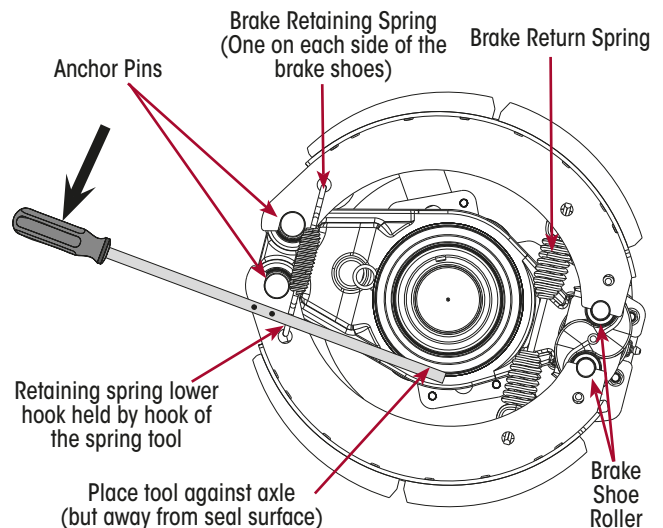

Figure 53: Brake Retaining Spring Installation
7. While manually supporting the lower brake shoe, use Brake Spring Tool to hook inner brake retaining spring onto the anchor end of the brake shoes. Take care not to damage the hub seal, spindle bearing or sealing surfaces. Refer Figure 53.